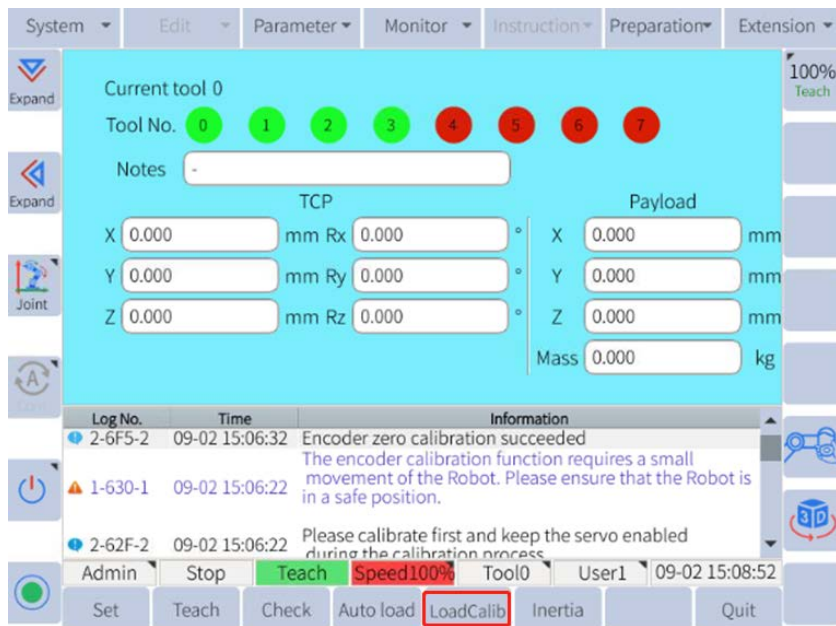

Figure6-31: LoadCalib at the bottom
- b. Click **LoadCalib** at the bottom, as shown in **Figure 6-31**.